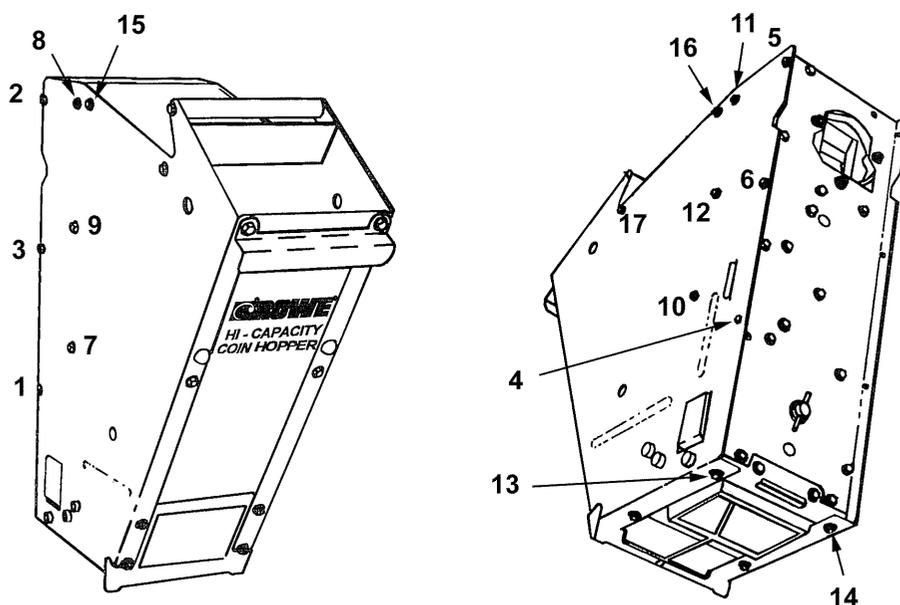

Figure 3-3C
- Reassemble the hopper (when finished cleaning) by replacing the back chain plate assembly and starting all screws removed. Once all screws have been started, they may then be tightened. The screws must be tightened in sequence as shown in *Figure 3-3C*.